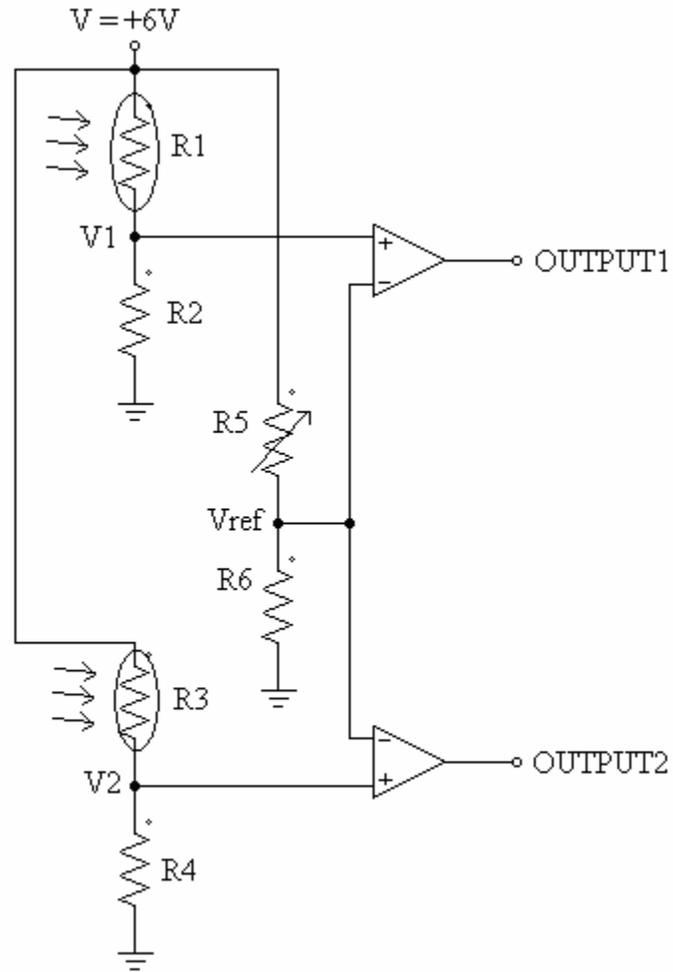

Figure 3.2 Circuit Diagram of Comparator
- First of all, as shown in figure 3.2, voltages V_1 and V_2 are measured considering the ambient light. According to that, the reference voltage V_{ref} is set little more than V_1 (or V_2) by changing the variable resistor R_5 .